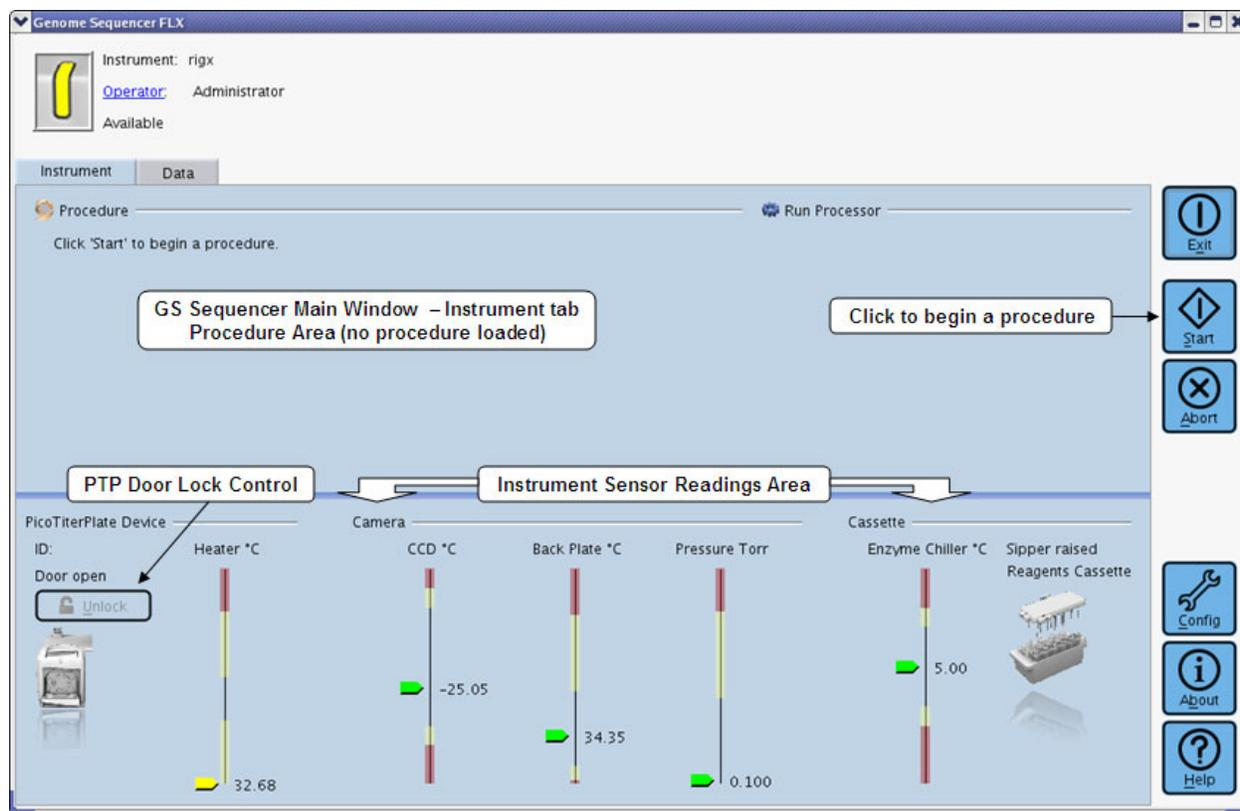
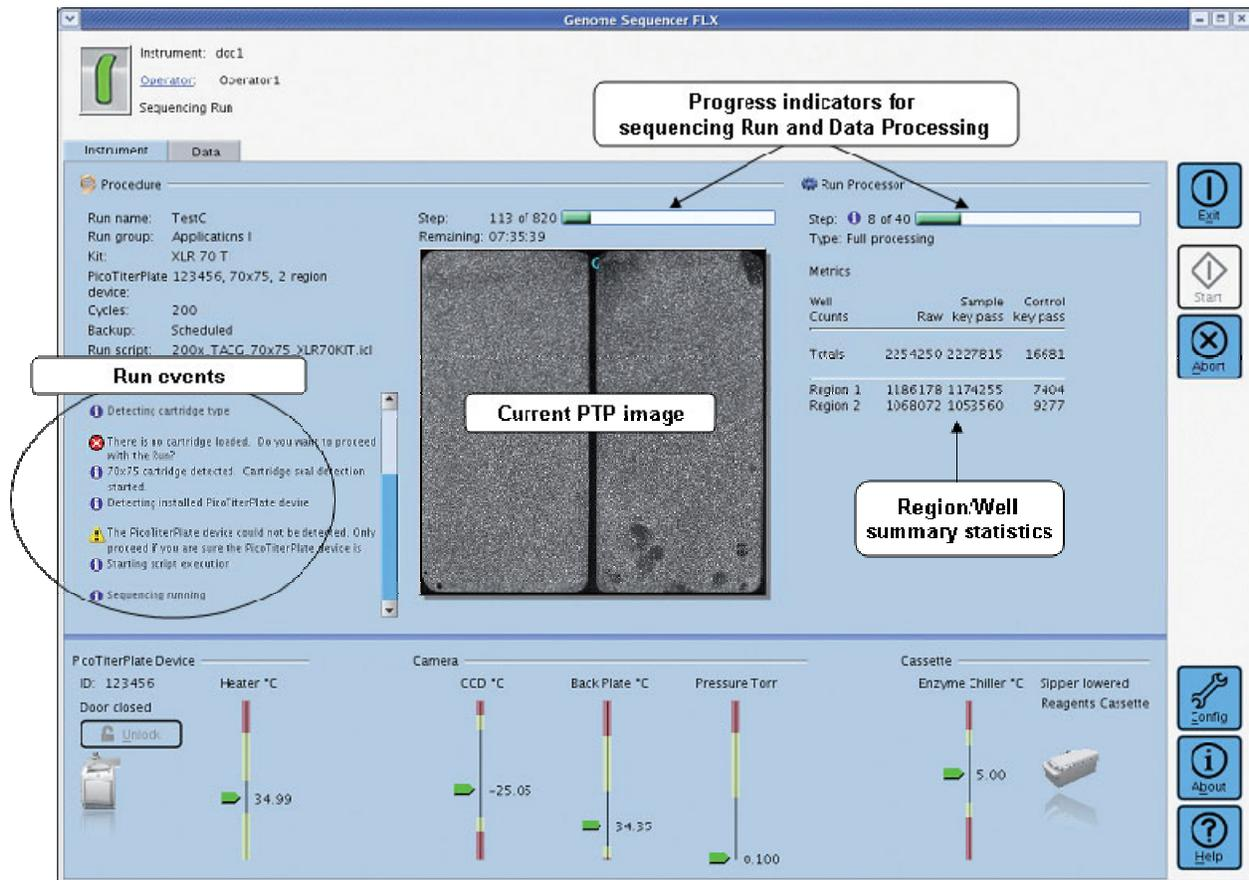

Figure 7: The GS Sequencer application window (after signing in)
Figure 24: The GS Sequencer application Instrument tab during a sequencing Run
- The Instrument tab is divided into an upper 'Procedure' area and a lower 'Instrument Sensor Readings' area (see Figure 7 and Section 3.3, below).
The 'Instrument' tab of the GS Sequencer application is divided into an upper and a lower area (previously seen in Figure 7, above). Figure 24 shows how the Instrument tab looks when a Run is in progress.